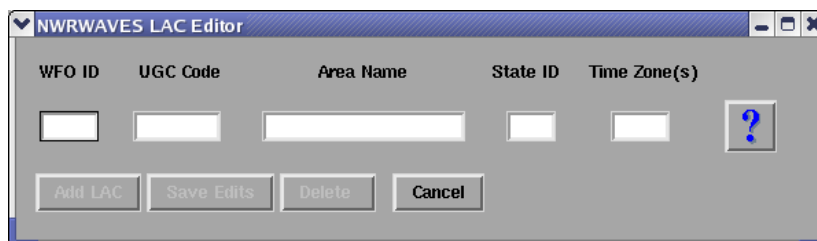

Figure 2a – Add a local listening area code (LAC)
- b) A pop-up GUI will appear, and you will be prompted to enter data into it (Figure 2a).